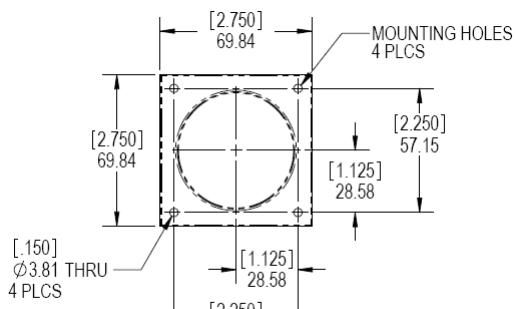

Figure 7
This Helios™ charger requires (4) #6 x 1-1/4" Phillips round head wood screws (not included) to be inserted into the provided holes to hold the charger in place, assuming the work surface is 3/4 inch thick (see Figures 7 & 9). Special consideration for the screw size must be taken by the installer; the screw length should not pierce through the top surface of the work surface and may differ from work surface to work surface.